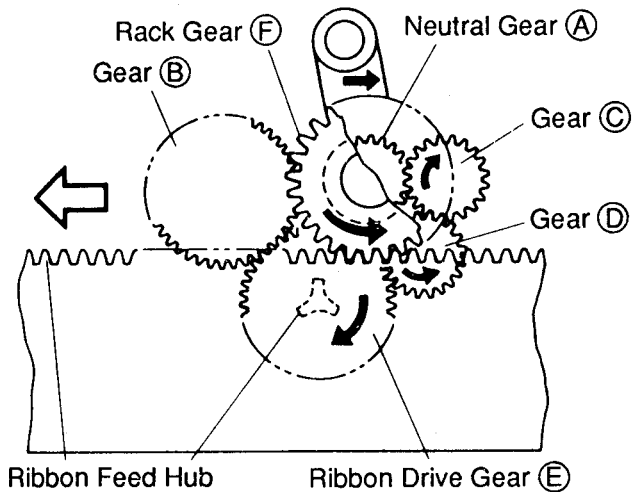

Fig.1 (Bottom View)
This function performs the ribbon feed operation in accordance with the movement of the carriage. The ribbon cassette drive mechanism is shown in Figures 1 and 2.
When the carriage moves to the right (Fig.1), rack gear (F) turns the neutral gear (A) counter-clockwise. The neutral gear (A) then engages with gear (D) via the gear (C) which turns the ribbon drive gear (E) clockwise with the hub.